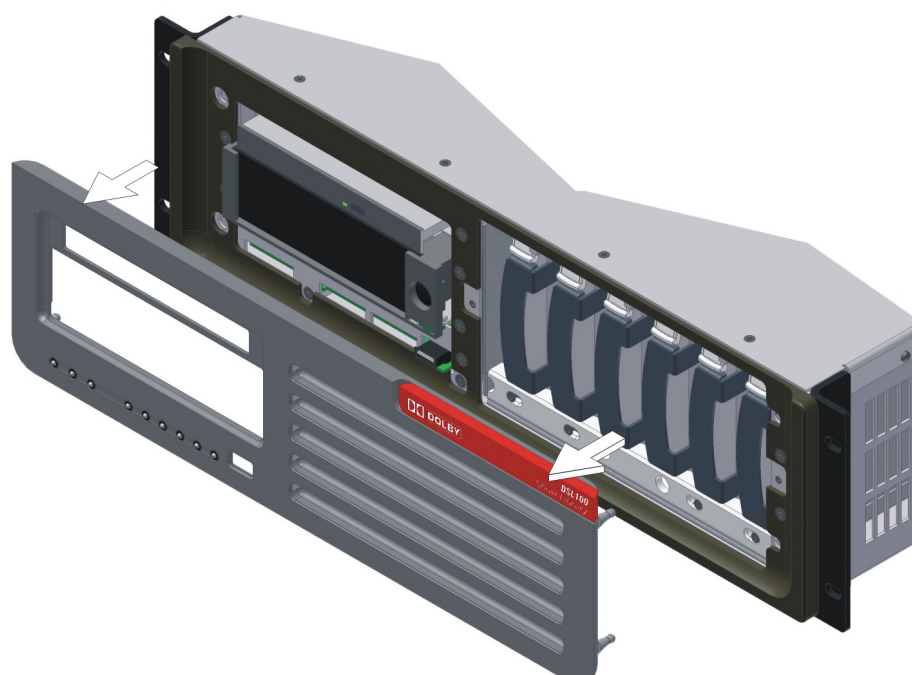

Figure 4-14 Removing the DSL100 Front Panel
2. Remove the DSL100 front panel by placing one hand on its left side and one hand on its right side, then pulling it toward you until it disengages from the main unit, as shown in Figure 4-14.